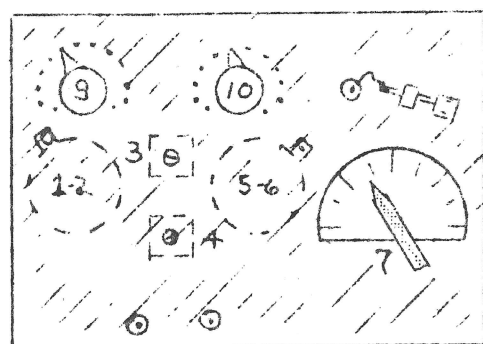

FIG. 3-WITH PADDING COND. (3-4)
- 2 .0001 mfd. (max.) padding cond. (if Fig. 3).
FIG. 3. Instead of ganged cond. as in Fig. 2 - you obtain 2 postage stamp cond. (padding) with a maximum capacity of about .0001 mfd. Mount them so screws come thru the panel. Once adjusted for a location you don't have to adjust them very often. Likewise, you may arrange this panel as desired.